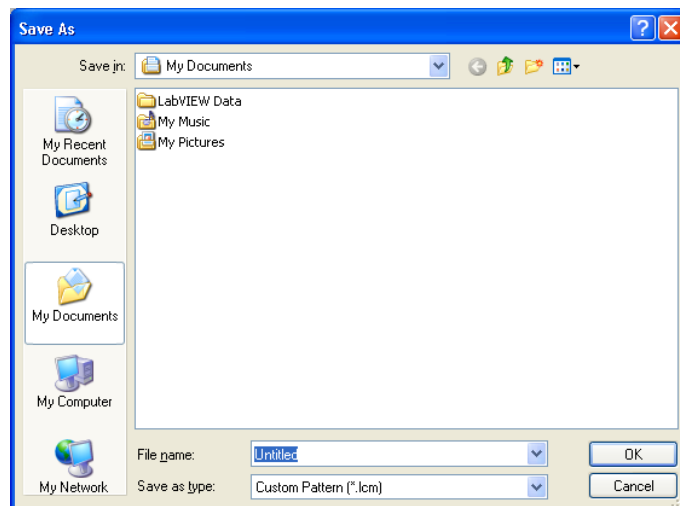

Figure 4-5 Dialog Box for Opening a File
- Recall: It calls the Soft Panel parameter file with the extension of .lcm as Figure 4-5 shows.